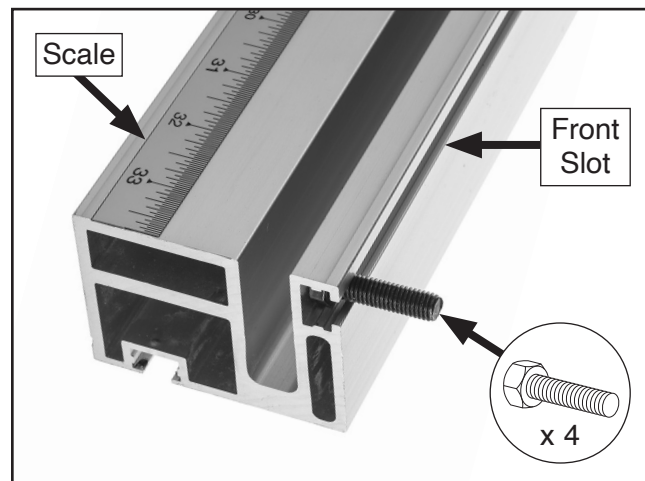

Figure 23. Example of hex bolt positioned in front extension rail slot.
7. Slide (4) M8-1.25 x 35 hex bolts into slot on right end of front extension rail, as shown in **Figure 23**.